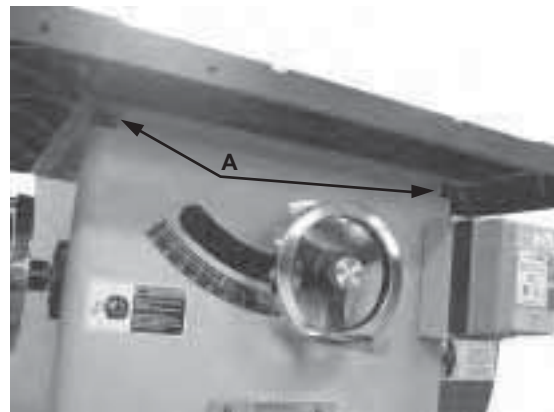

Figure 18
5. If they are not the same, loosen four *hex socket cap screws* (A, Fig. 18) that hold the table to the base. Two are shown in Figure 18.